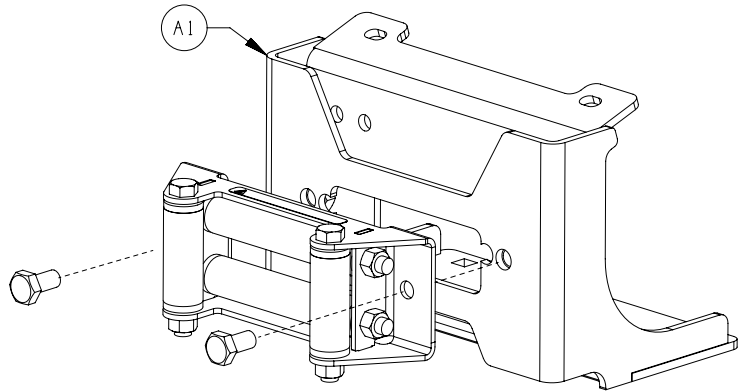

Figure 1
3. Install roller fairlead to mount (A1). See figure 1.